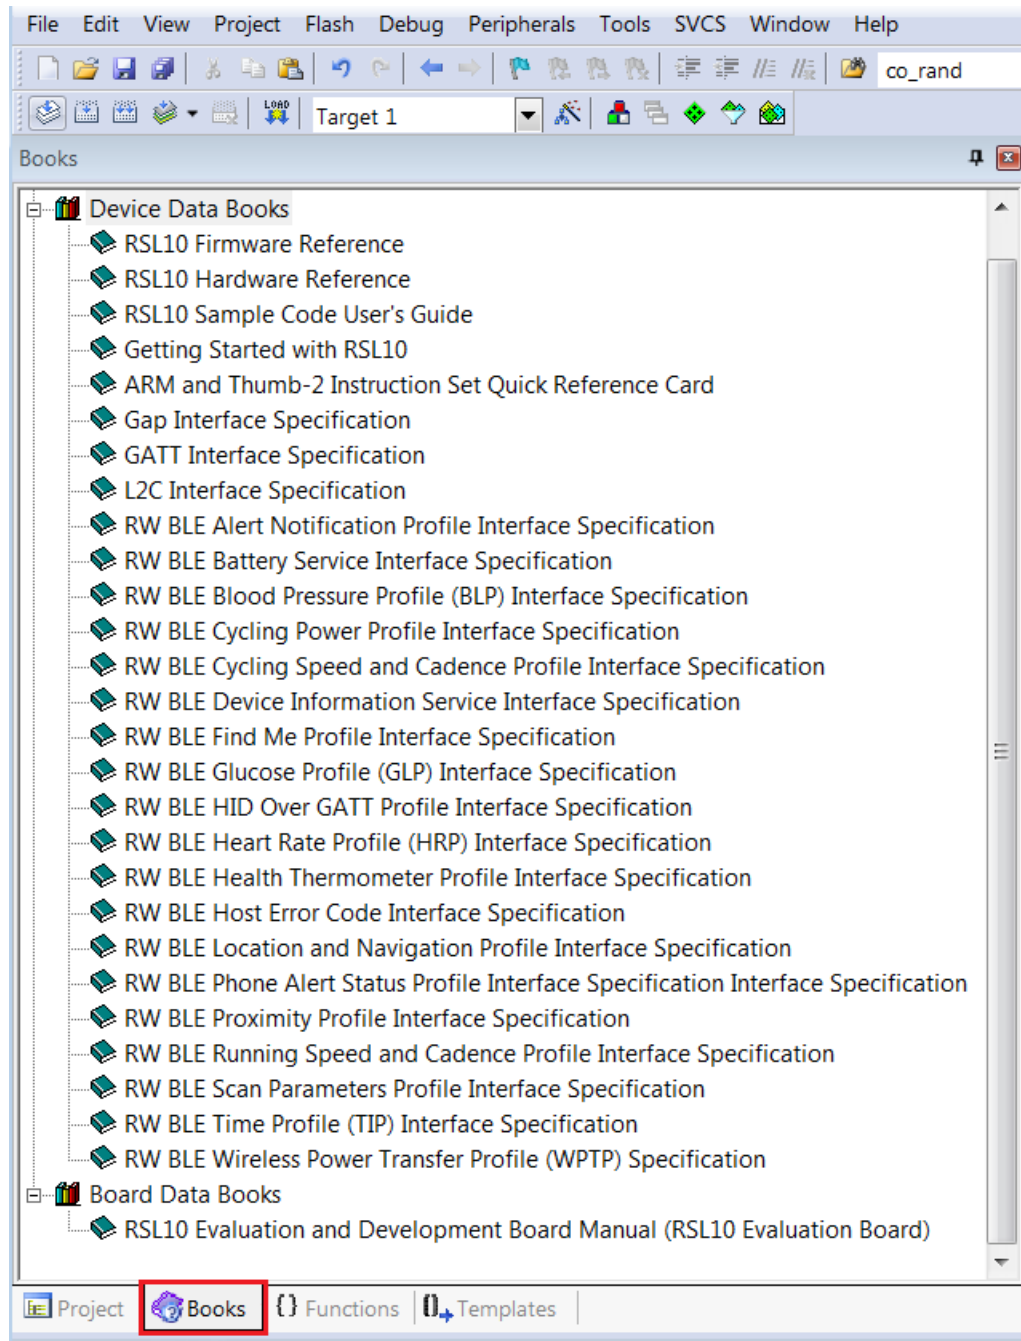

Figure 55. Accessing RSL10 Documentation from the Keil μ Vision IDE
- Keil μ Vision IDE: documentation is available in the **Books** tab, as shown in the figure "Accessing RSL10 Documentation from the Keil \$\mu\$ Vision IDE" (Figure 55).